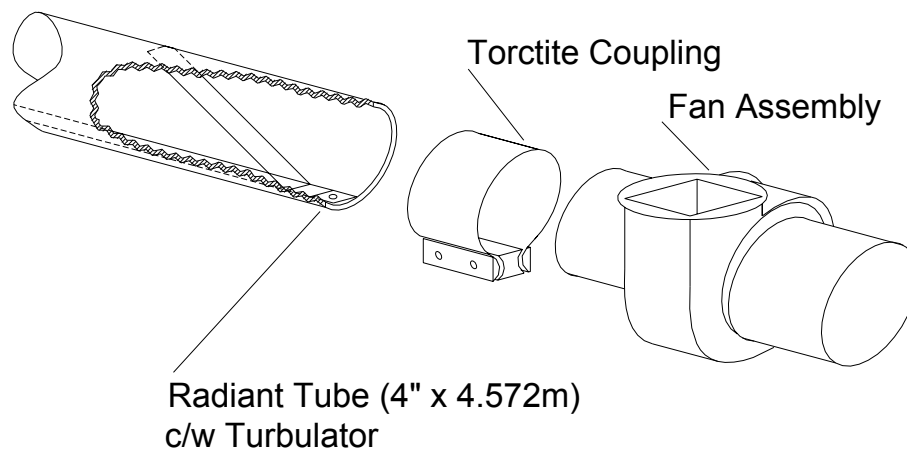

Fig 26
IMPORTANT: ensure that the turbulator is positioned adjacent to the Fan Assembly and orientated as shown in Fig. 26. Failure to assemble the Radiant Tubes with their welded seams facing away from the reflector will void the manufacturers warranty.
- 6.7.4 Place a second Torctite Coupling over the end of the Radiant Tube Assembly at the end where the turbulator is secured to the tube, (see Fig. 25 and Fig. 26) ensuring that it engages fully up to the stop. Assemble the Fan Assembly to the Radiant Tube, ensuring that it engages fully into the Torctite Coupling (up to the stop) and is positioned with the fan outlet horizontal for flueless applications or either horizontal or vertical (facing upwards) for flues applications. Tighten the nuts of the Torctite Coupling to secure the Fan Assembly to the Radiant Tube, taking care to support the Fan Assembly in line with the axis of the tube.
- 6.7.6 Place the third Torctite Coupling over the open end of one Radiant Tube ensuring that it engages fully, up to the stop. Assemble the second Radiant Tube into the Torctite Coupling ensuring that it engages fully, up to the stop with the Hanger Brackets aligned with those of the first Radiant Tube section (see Fig. 26). Tighten the nuts of the Torctite Coupling to secure the two sections of Radiant Tube to one another, taking care to maintain the tubes in a straight line.